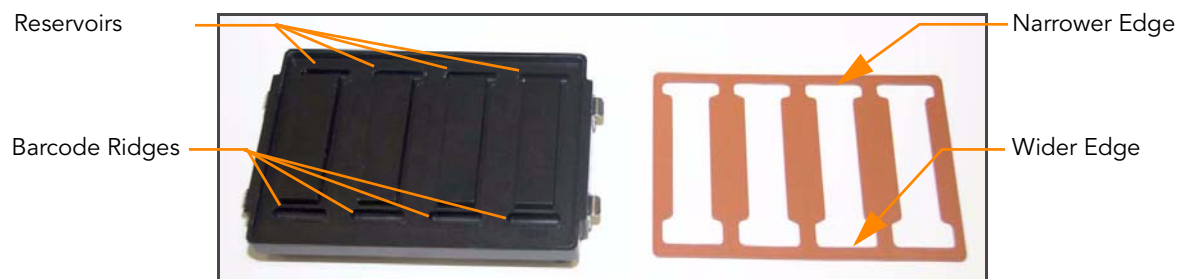

Figure 20 Hyb Chamber and Gasket
- a. Match the wider edge of the Hyb Chamber gasket to the barcode-ridge side of the Hyb Chamber (Figure 20).